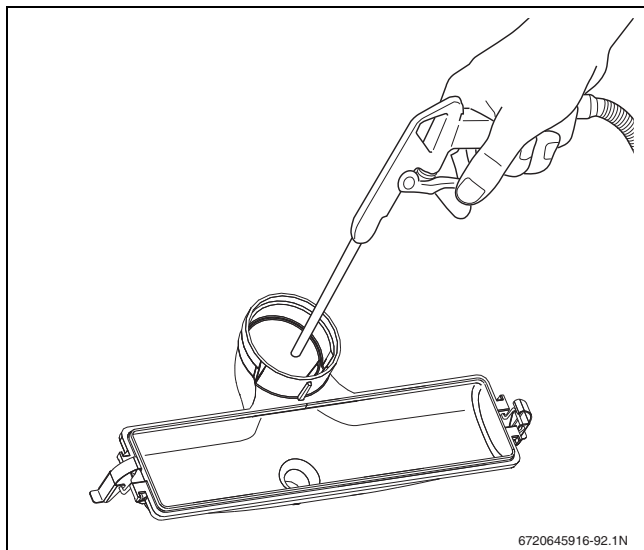

Fig. 94 Cleaning the condensate collector
- Clean the condensate collector mechanically (using compressed air or a soft brush) and rinse it with clean water (→ fig. 94).